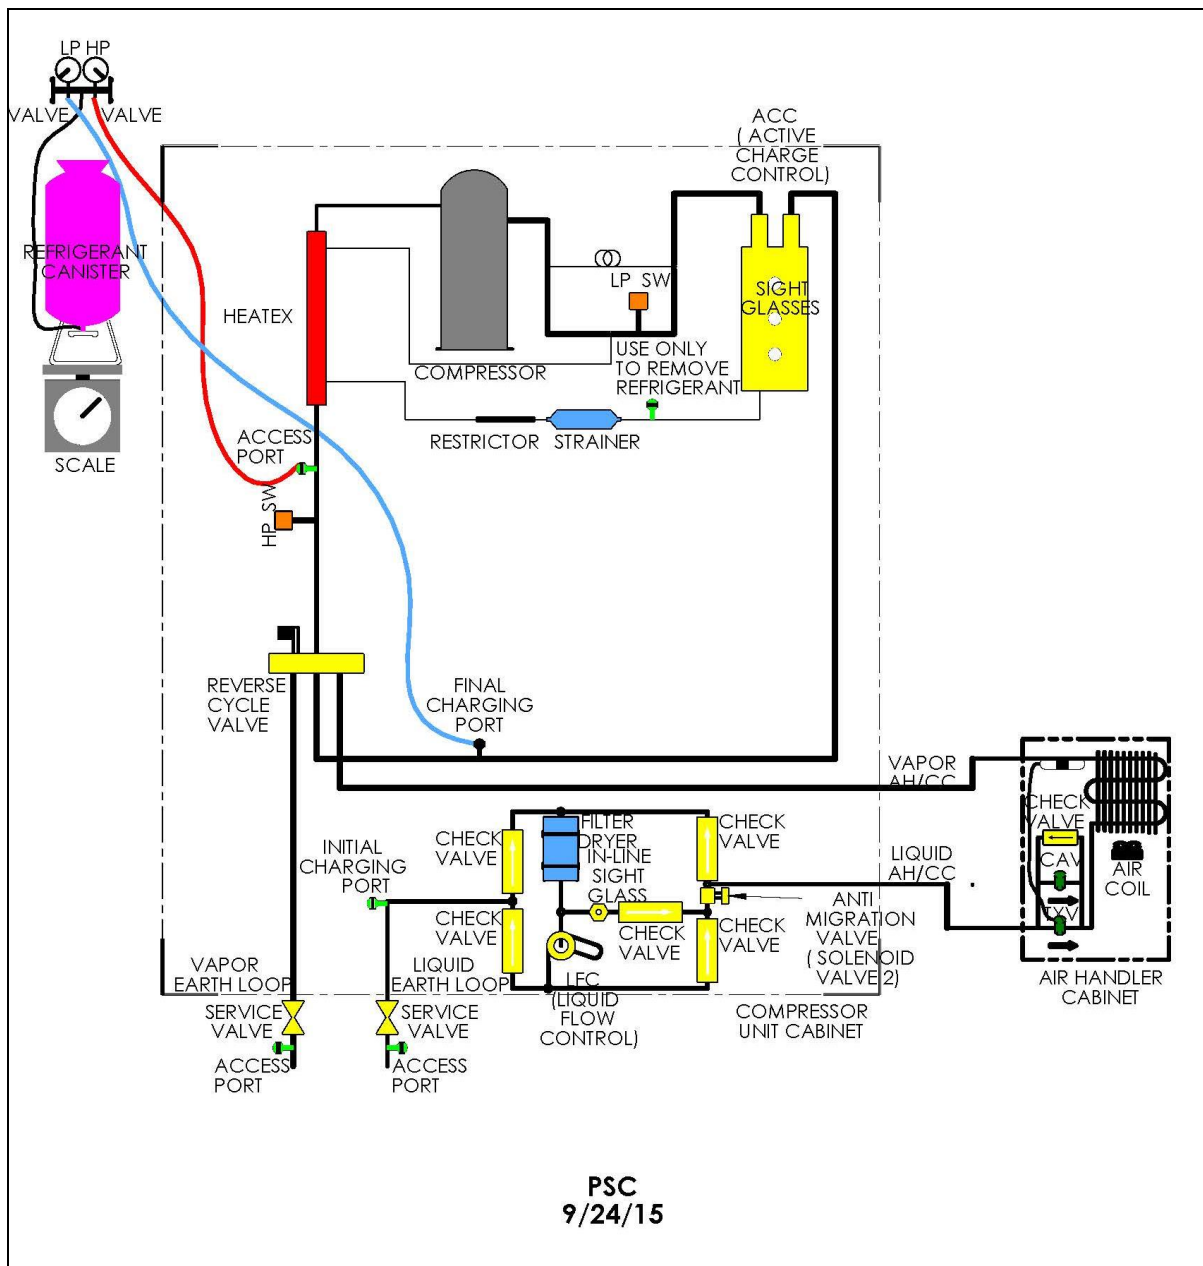

Figure 28. Final Charge of PSC System
2. Crack open the LP valve on the manifold gage set so that a small amount of refrigerant gas flows to purge the hose. Connect the hose to the final charging port, shown in Figure 28. Tighten the hose to the final charging port and turn off the LP valve when the hose connection is secure.
7. With the liquid refrigerant level at the middle sight glass, attach and insulate a temperature clamp or probe securely to the earth loop vapor line at the compressor unit service valve shown in Figure 28. Read the measured temperature. Also read the LP gage pressure on the manifold gage set. Use a pressure/temperature chart (Figure 34) to verify that the system is operating at saturation, meaning that no superheat is measured on the earth loop vapor line. To verify this, the measured vapor line temperature should be within $\pm 3^{\circ}\text{F}$ of the saturation temperature read from the chart for the measured LP gage pressure. If the measured temperature is out of this range, contact ETI technical support at 1/863-701-0096.